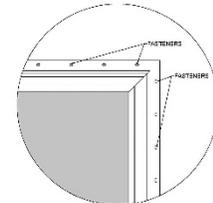

Fig. 3
17. Nail window in place thru every other nail hole on all sides. (Fig.3)